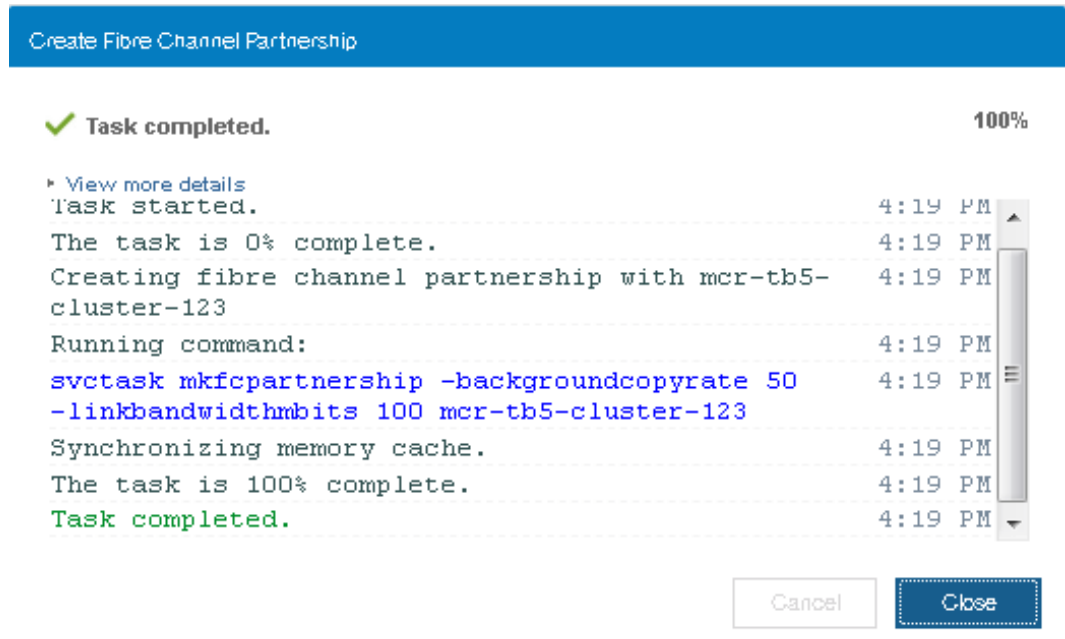

Figure 10-96 Fibre channel partnership created
6. You will get a confirmation window as shown in Figure 10-96 on page 562.